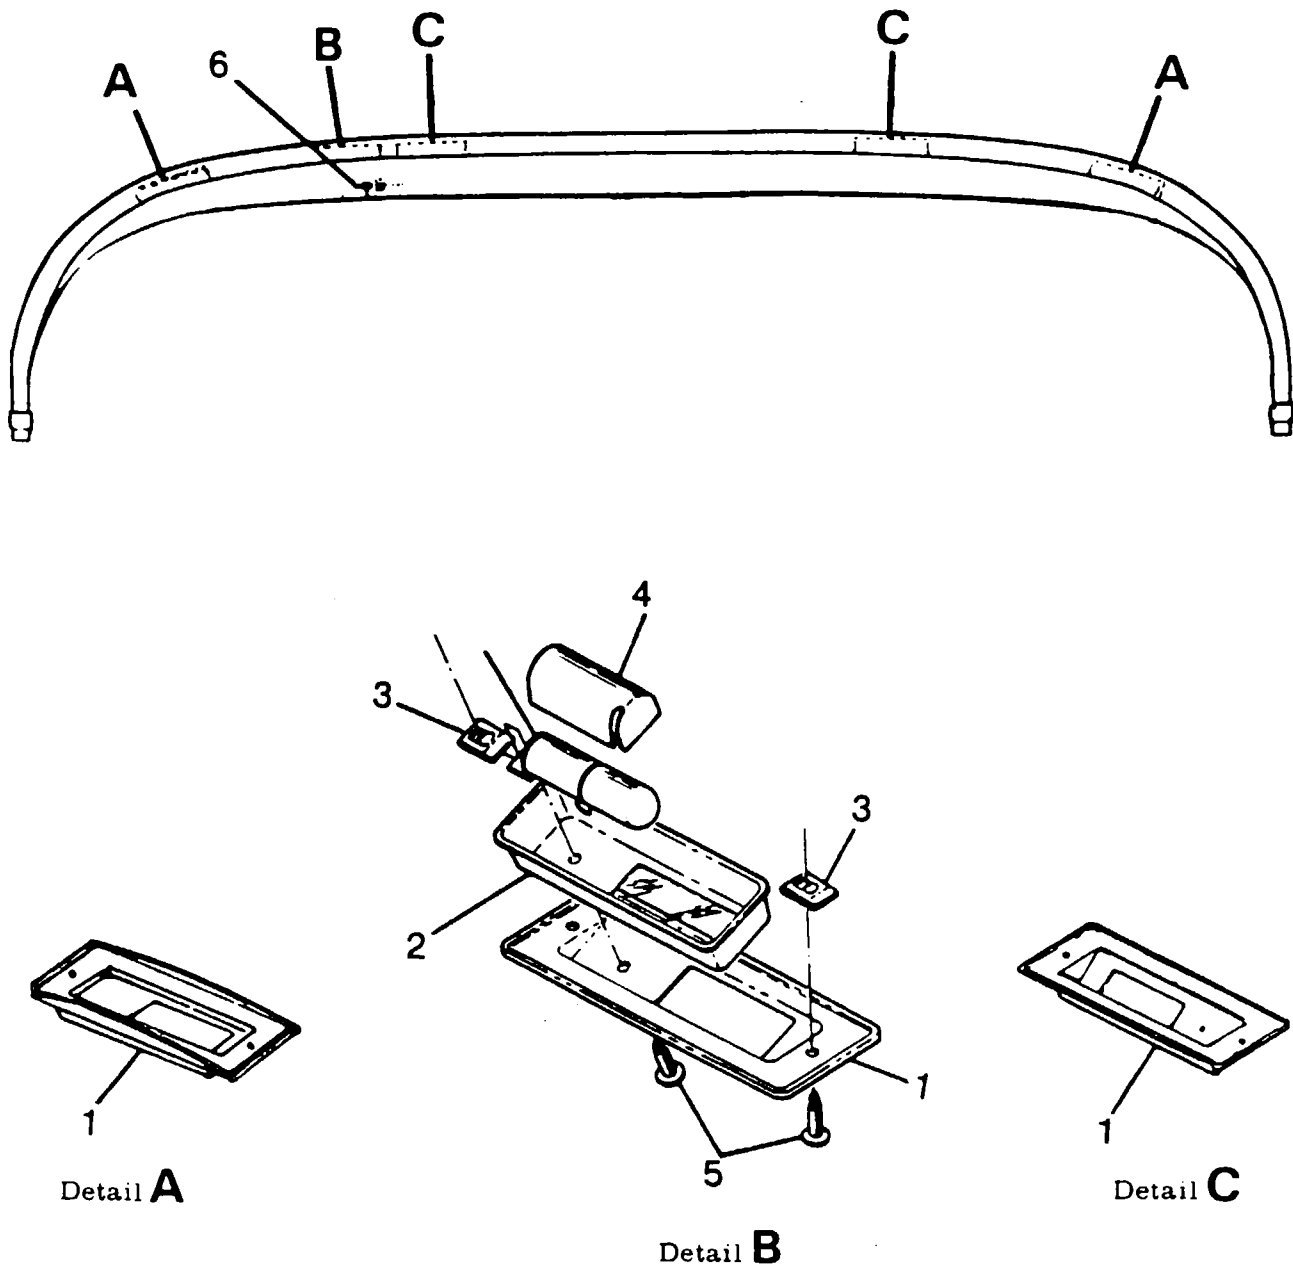

Figure 16-10. Instrument Panel Glareshield Lighting Installation
- 16-83. REMOVAL AND INSTALLATION. (See figure 16-10.)